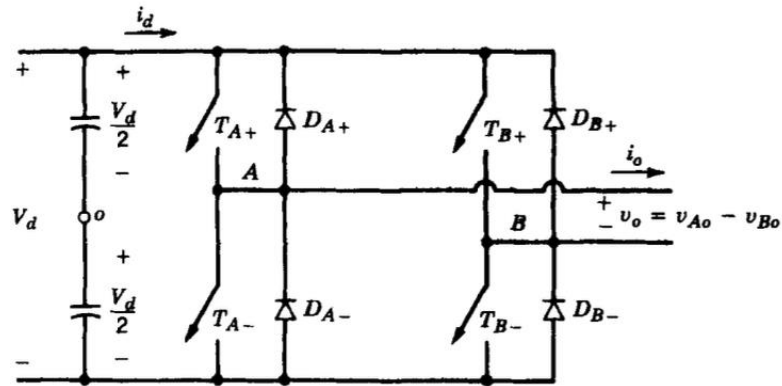

Figure Q4.b
- b) Figure Q4.b shows a single-phase full bridge inverter.